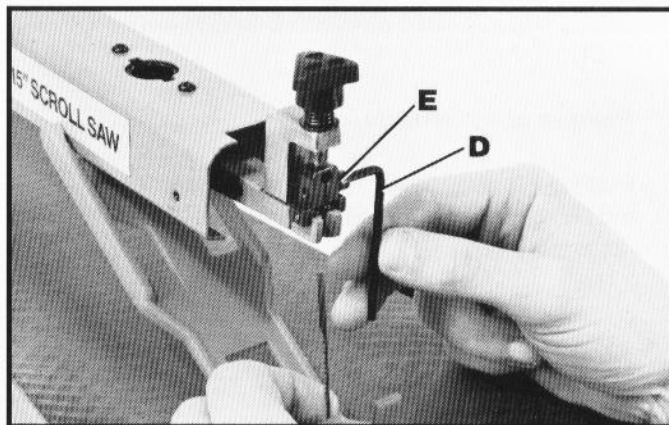

Fig. 22
4. Using wrench (D) Fig. 22, loosen blade holder screw (E).